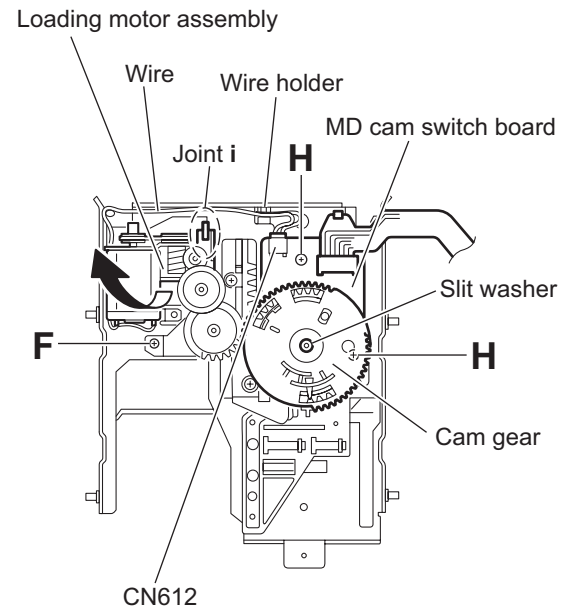

Fig.13
(See Figs.13 and 14)
- (1) Remove the wire from the wire holder and disconnect the wire from the connector CN612 on the MD cam switch board. (See Fig.13.)
- (2) Remove the screw **F** attaching the loading motor assembly and disengage the joint **i**. (See Fig.13.)
(See Fig.13)